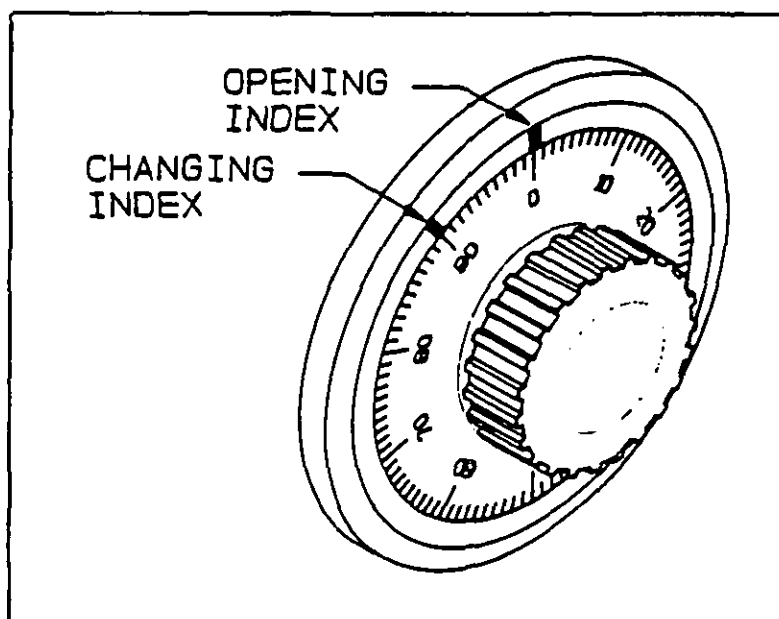

Figure 24
3.4.1 1980-A RL. The 1980-A RL is a Group 1R mounted combination lock intended for use on safes and vaults. It has an antimanipulation device inside the lock. This device is operated with each revolution of the dial and does not affect operating conditions. This lock is illustrated in Figures 24 and 25.